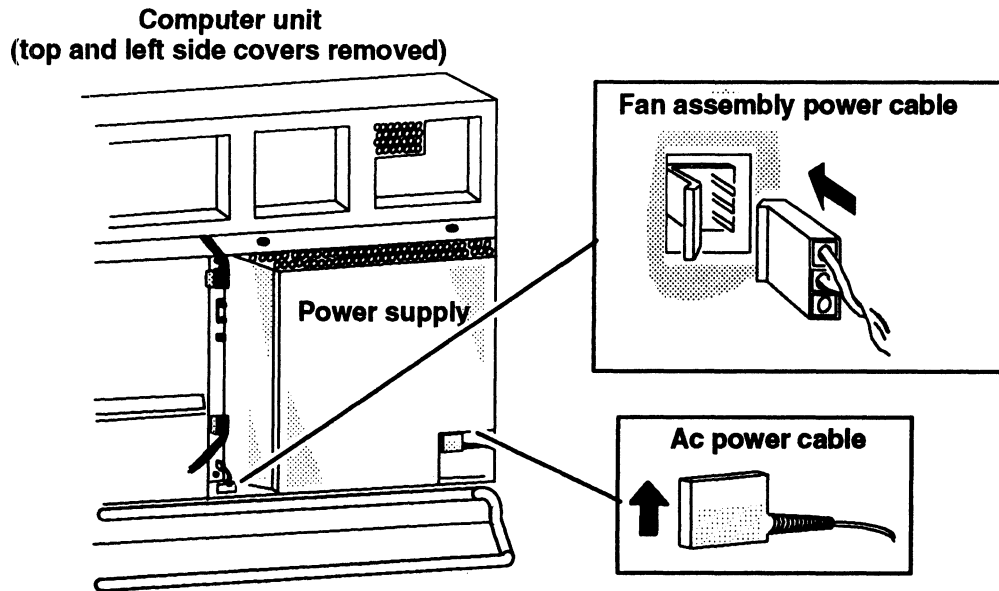

Figure 11–9 Connecting the Fan Assembly Power and the AC Power Cables
6. Plug the fan assembly power and the ac power cables to the power supply as shown in Figure 11–9.